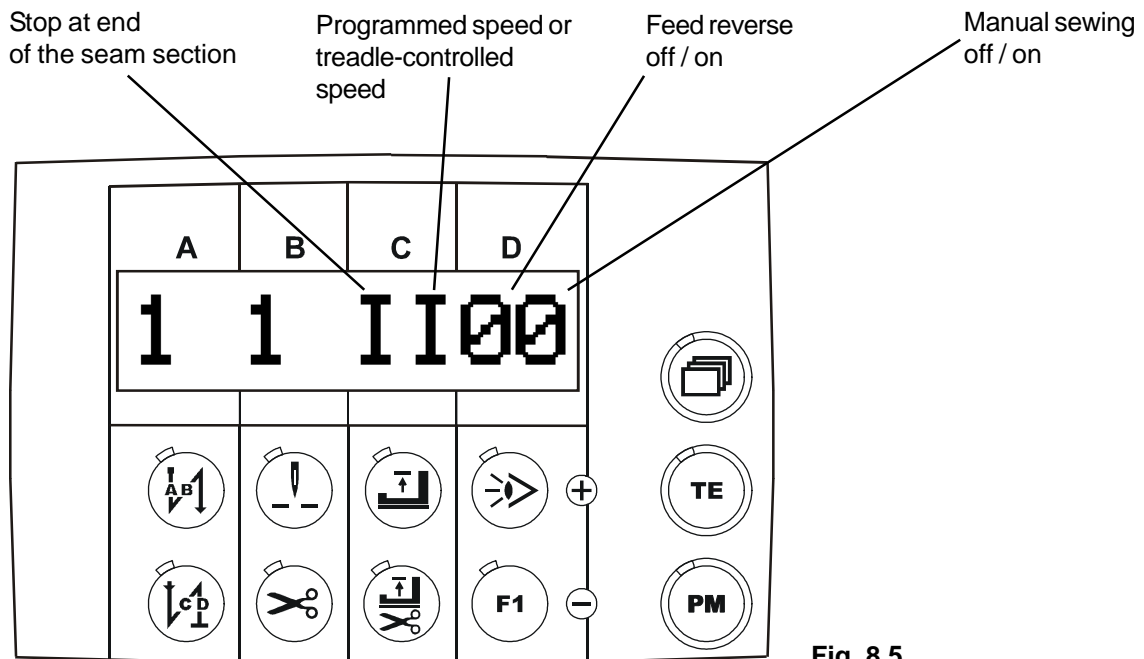

Fig. 8.5
- 5.2 Press the paging key until the display **Fig. 8.5** appears